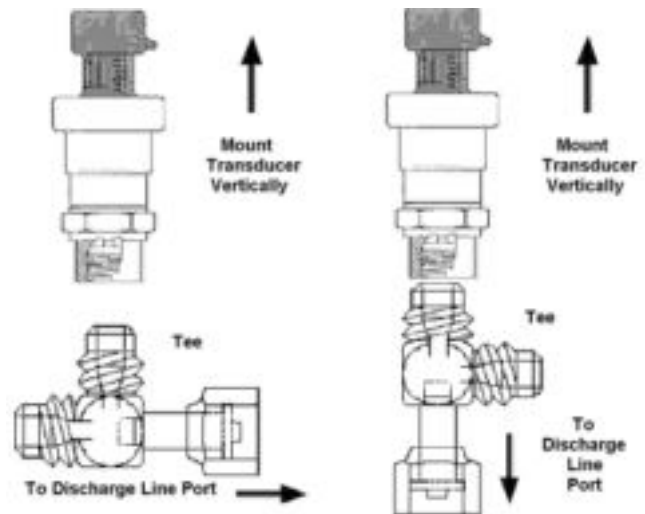

FIGURE 3 - P399 Pressure Transducer Mounting
- Tighten and secure the connection, making sure the transducer is mounted vertically. See Figure 3.